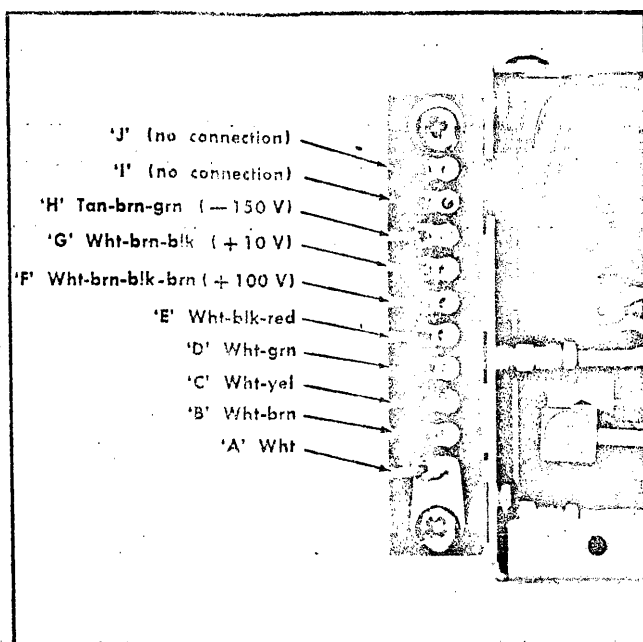
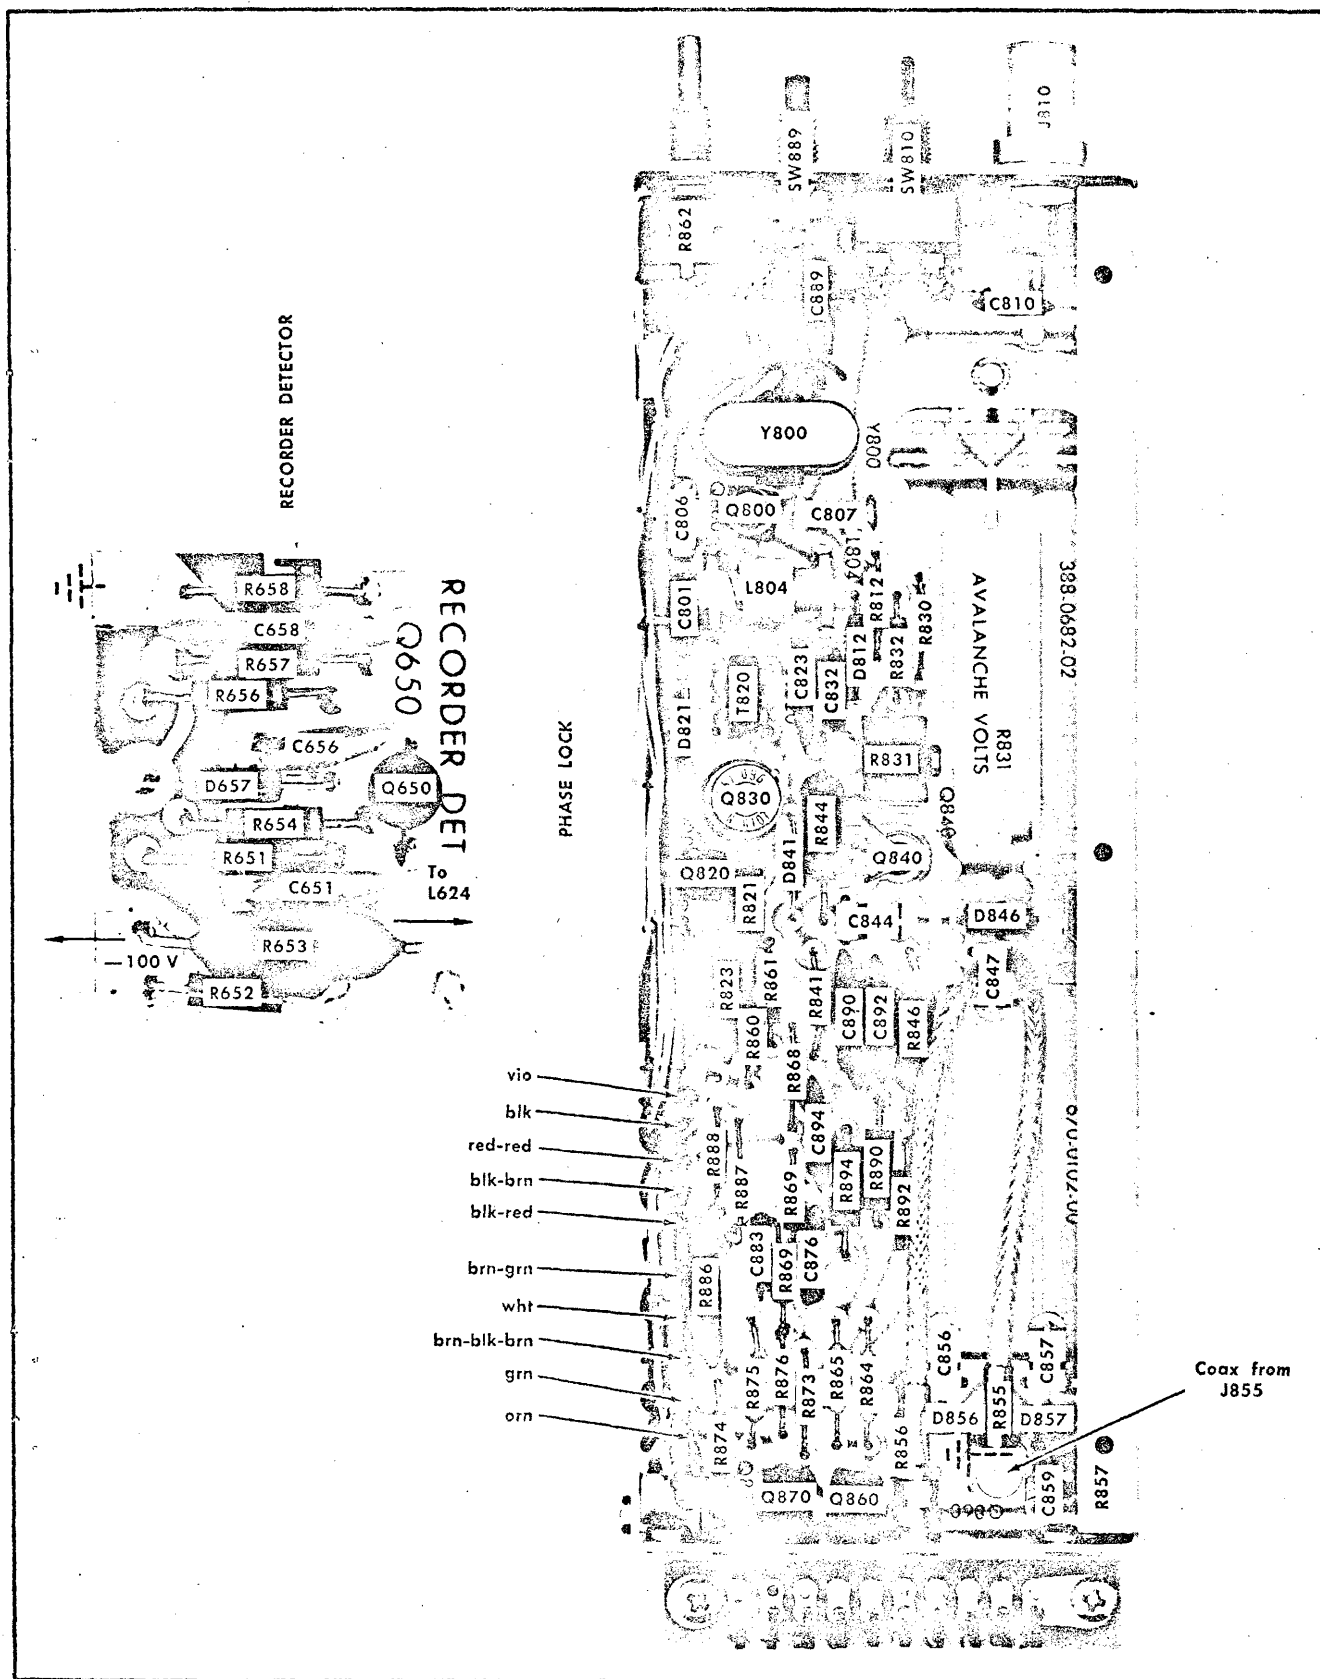

Fig. 4-11. Wiring color code to phase lock assembly square pin connector.
Fig. 4-14. Phase Lock and Recorder Detector circuit boards.
J855. Check the lead dress and all connectors to insure that no short circuit exists and all connections are correct (see Fig. 4-11). Power can now be applied and the phase-lock circuit checked for correct voltages and waveforms. Fig. 4-14 illustrates component layout on the circuit board.
2. Refer to the Phase Lock diagram and Fig. 4-11 for the correct voltage and signal cable hook up. Make certain the dot on the FINE RF CENTER FREQ control is indexed at the center of the control range when the knob is replaced.
Check circuit voltages and waveforms against those shown in section 9 of this manual. Figs. 4-14 and 4-15 provide circuit board wiring drawings and component layout information for the honeycomb and the phase lock assemblies. If the trouble cannot be isolated to a circuit, start with the power supply voltages, then proceed consecutively from one circuit to the next until the problem is localized.